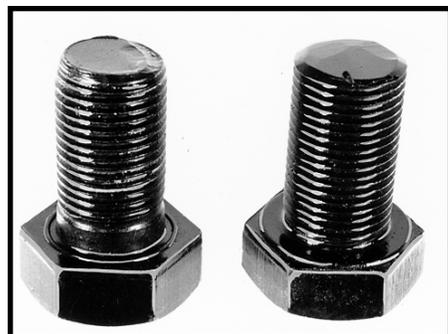

Figure 46
**NOTE: These bolts are special because they are equipped with either a ring or washer design on the underside of the head. If you replace one or more bolts, you must use bolts of either design and of the SAME SPECIAL TYPE AND LENGTH AS THOSE YOU REMOVED. Do not use a substitute. You can get these bolts through your OEM parts distributor. SEE FIGURE 46.**